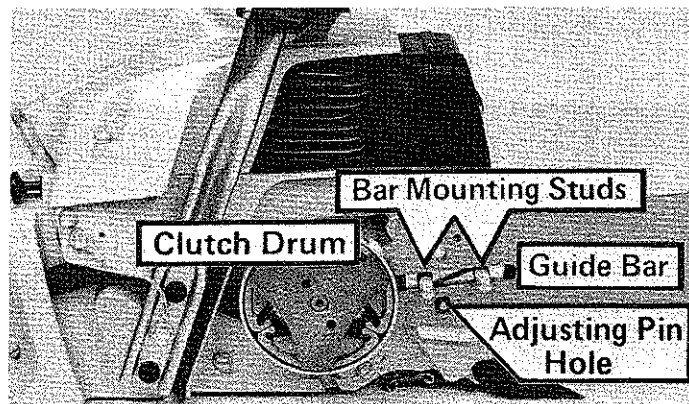

Figure 3
3. Place "S" clip over the mounting studs and flush to the inner bar plate. Now mount the slotted end of the guide bar over the bar mounting studs and "S" clip and behind the clutch drum. Be sure to position the bar adjusting pin into the hole in the guide bar. FIGURE 3.